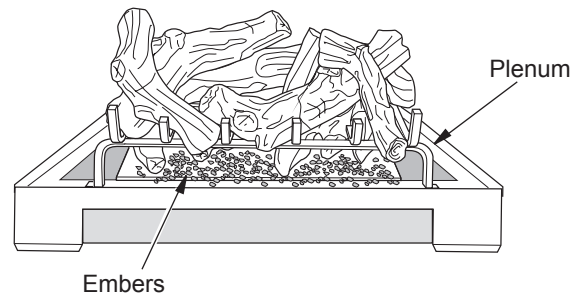

Figure 38 - Placing Ember Material on Burner
1. Pull ember material apart into pieces no larger than a dime. Place these pieces loosely and sparingly directly onto the exposed front section of the burner (see Figure 38). This will create the glowing ember appearance as the flame touches the ember material. Do not block air slots by using too much ember material in one area. It is not necessary to use all of the ember material provided.